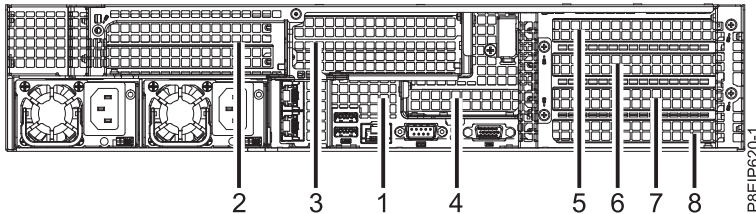

Figure 26. 8001-22C PCIe adapter positions
2. A GPU adapter can share a PCIe riser card with other adapters. The GPUs can be in positions 3 and 5. See Figure 26.